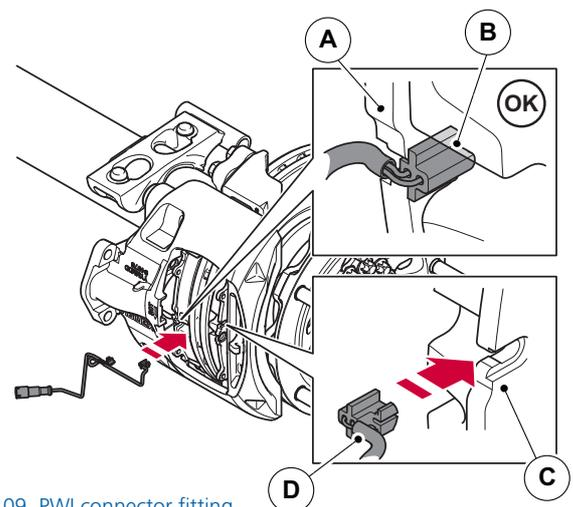

Figure 109. PWI connector fitting
4. Fit PWI connectors (B and D) in place where appropriate in the (A) inner pad and (C) outer pad. See figure 109.